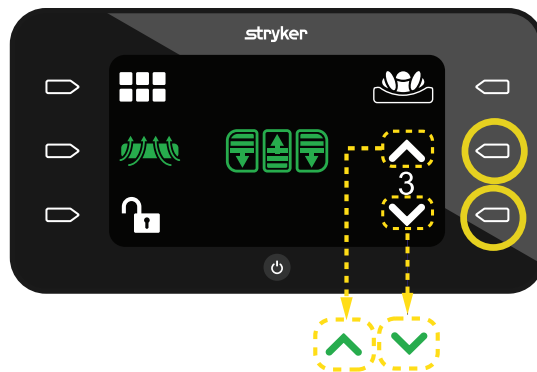

Figure 33 – ALP mode level 3
4. Press the **Action** button next to the **up-arrow** or **down arrow** to increase or decrease the ALP level from 1 to 5 (Figure 33).